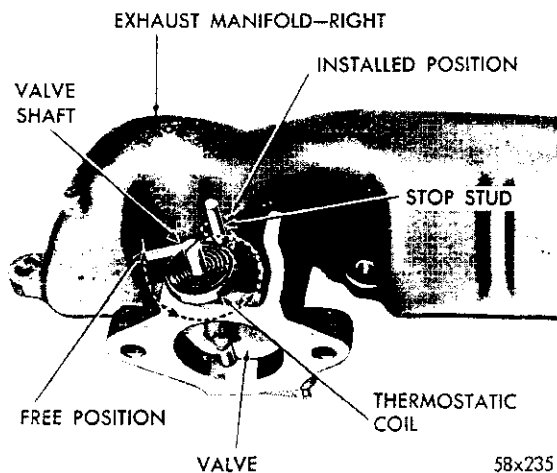

Fig. 10—Positioning the Coil
(1) Position the valve shaft in the extreme counterclockwise position.
(2) Place the new coil in position over the shaft slot, with the outer end tongue of the coil in the lower right-hand position, as shown in Figure 10. Press the inner end of the coil into the slot of the shaft and seat firmly.
(3) Move the outer end tongue around and hook under the pin, as shown in Figure 10.